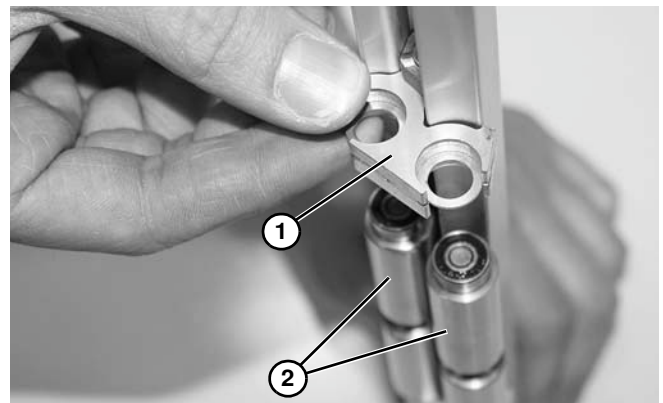

Figure 68
8. Remove bearing carrier (if installed) (**Figure 68, item 1**) and spindles (**Figure 68, item 2**).